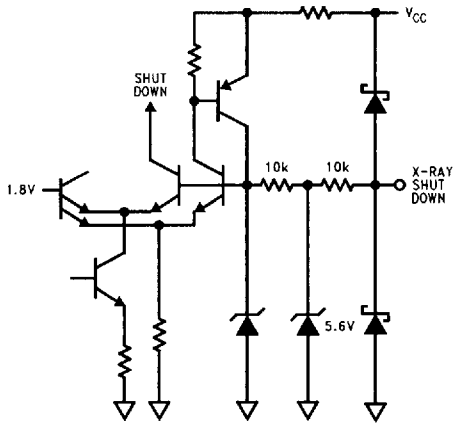

FIGURE 12
**Pin 16 - X-RAY SHUTDOWN:** This pin is for monitoring CRT anode voltage. If the input voltage exceeds an internal threshold, H DRIVE OUT (pin 20) is latched high and VIDEO MUTE (pin 3) is latched low.  $V_{CC}$  has to be reduced to below approximately 2V to clear the latched condition, i.e., power must be turned off. See *Figure 12* for the input schematic.